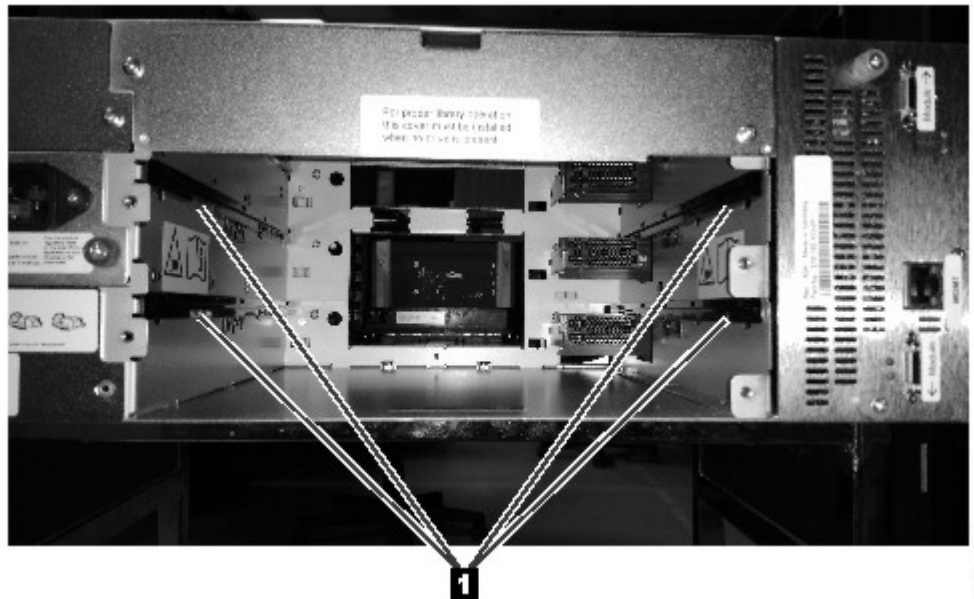

Figure 59. Alignment rails
2. Align and slowly insert the new tape drive into the drive bay along the alignment rails (1 in Figure 59 on page 120) while the drive assembly is supported. The tape drive must be flush with the back panel of the library.